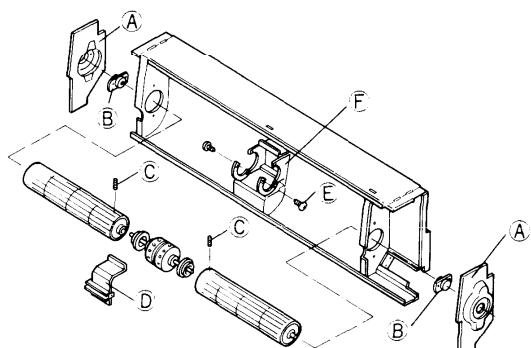

Fig. D-6
- 3) Remove the bearing case (A) and bearing assembly (B).
- 4) Loosen the fan fixing bolts (C) using a hexagonal key.
- 6) Remove the motor cover (D) and unscrew the screws (E) fixing the motor to open the motor fixing arm (F) as shown in Fig. D-6.
- 7) The fan motor can be removed in front as shown in Figure D-6.